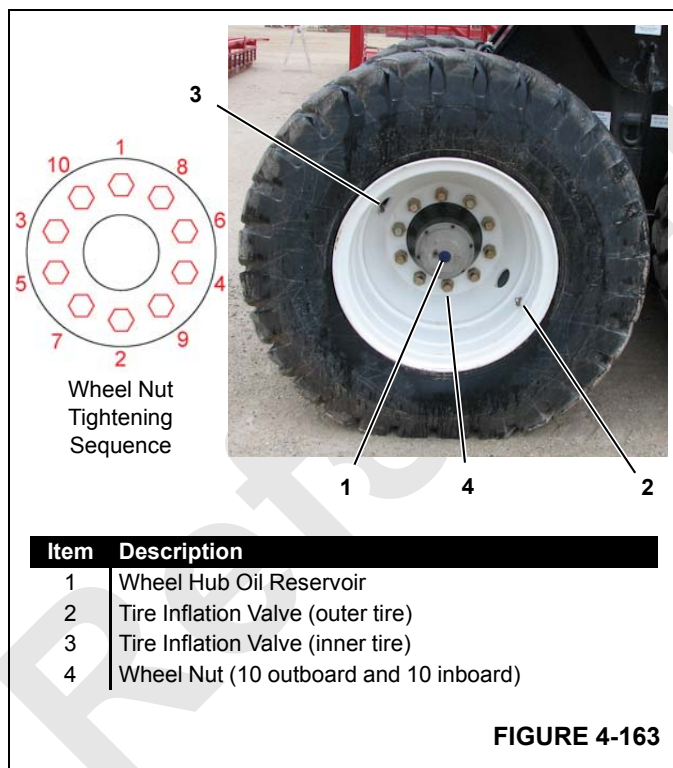

FIGURE 4-163
1. Prep the dolly prior to each use, as follows (see Figure 4-163):